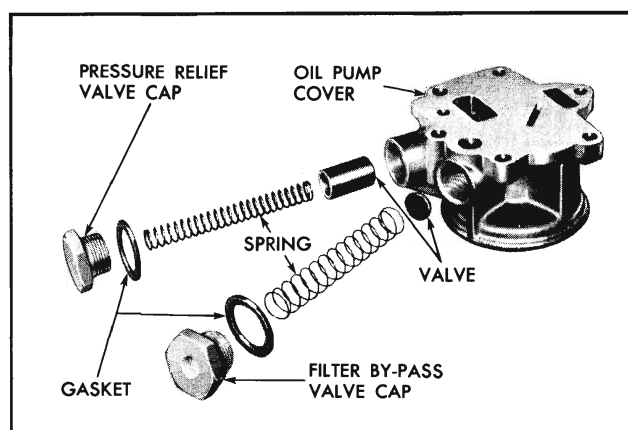

Fig. 6A-14 Oil Pump Cover Assembly for V-8 Engine
1. Lubricate and install pressure relief valve and spring in bore of oil pump cover (see Fig. 6A-14).